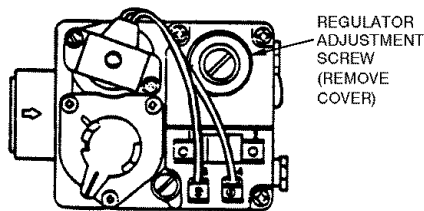

Fig. 53 — Gas Valve
- Remove screw cap covering regulator adjustment screw (See Fig. 53).